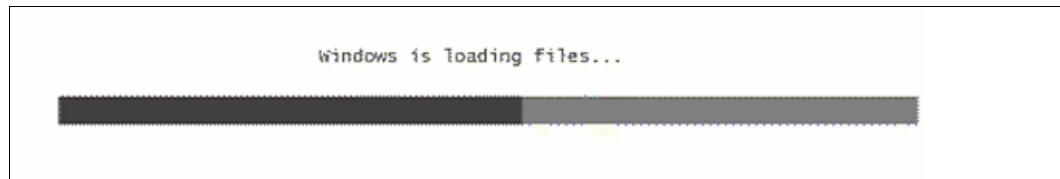

Figure 18-38 Rebooting the server
1. Insert the appropriate Windows Server 2008 installation media into your DVD drive. Reboot the server as shown in Figure 18-38.